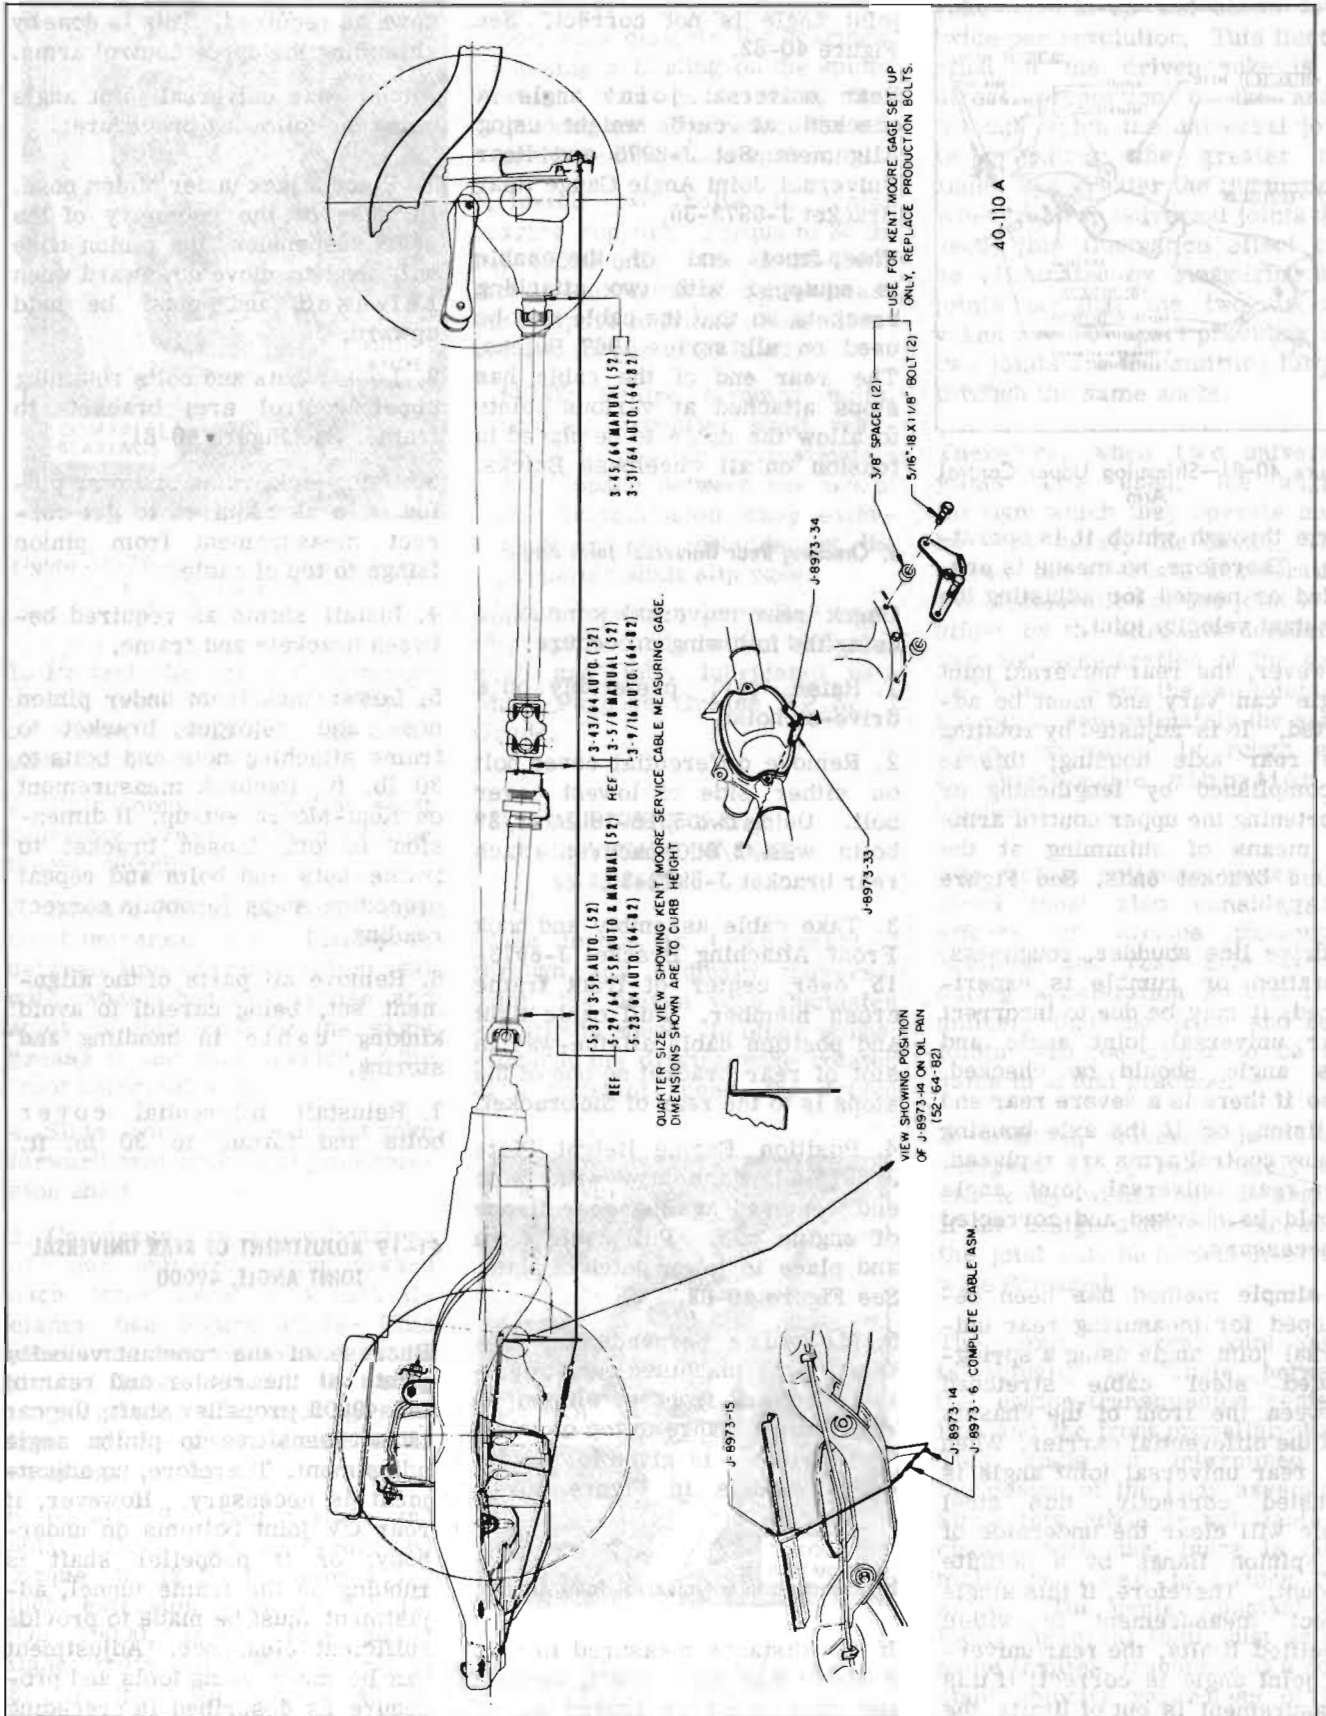

Figure 40-82—Checking Rear Universal Joint Angle, 45-46-48000
joint angle is not correct. See Figure 40-82.
4. Position Engine Height Plate J-8973-14 vertically with wide end centered against rear flange of engine pan. Pull cable down and place in lower notch of plate. See Figure 40-82.
5. Measure perpendicular distance from machined surface immediately in front of slinger on rear pinion flange to top of cable. This distance is given for 45-46-48000 models in Figure 40-82.